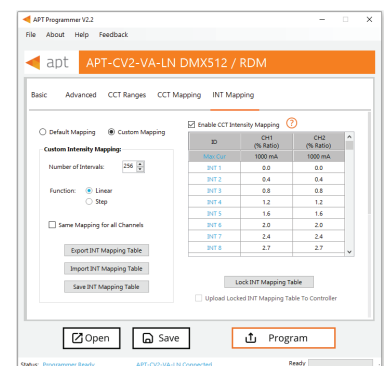

Figure 15b: Same Mapping for All Channels unchecked
*If Same Mapping for all Channels is unchecked, then the CH1 column of the table will be used to upload the INT mapping for the intensity of the CCT shown in Figure 15b.*